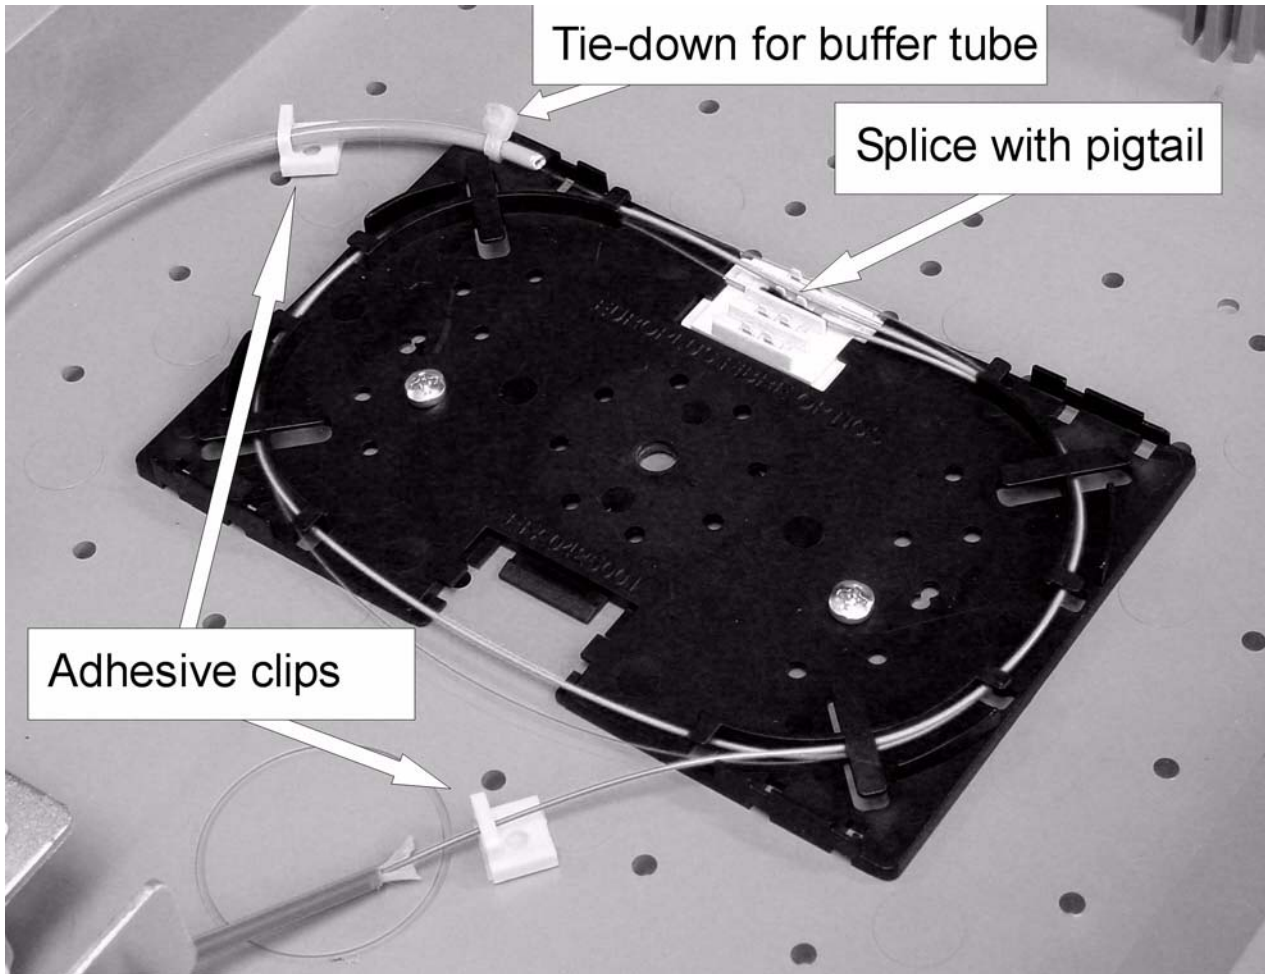

Figure 24. Splicing Tray - Complete
15. Trim the wire tie close to the cables. The completed splice tray should look like Figure 24.